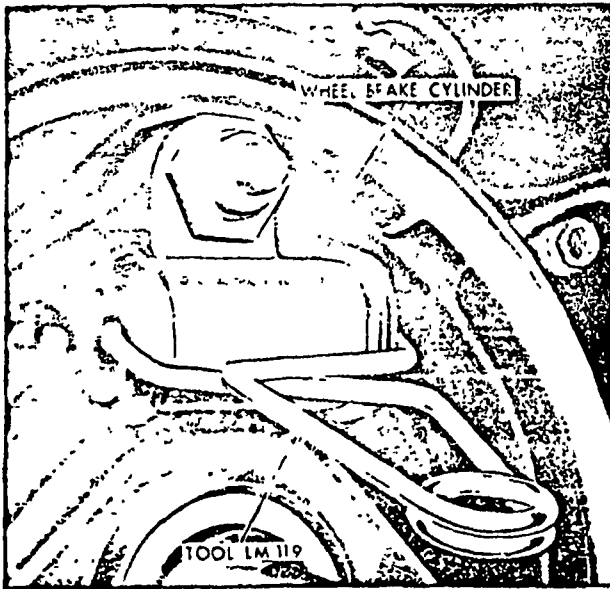

Fig. 2A-10—Wheel Cylinder Piston Clamp Installed
10. Install a wheel cylinder piston clamp, Tool LM-119, to hold the piston in place. See figure 2A-10.